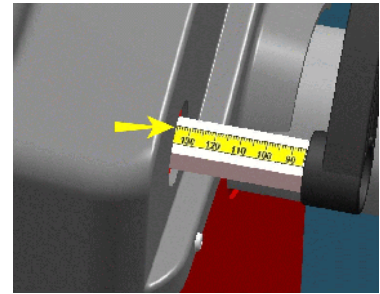

FIG. 13
Insert the distance measure (IN) (Fig.13).